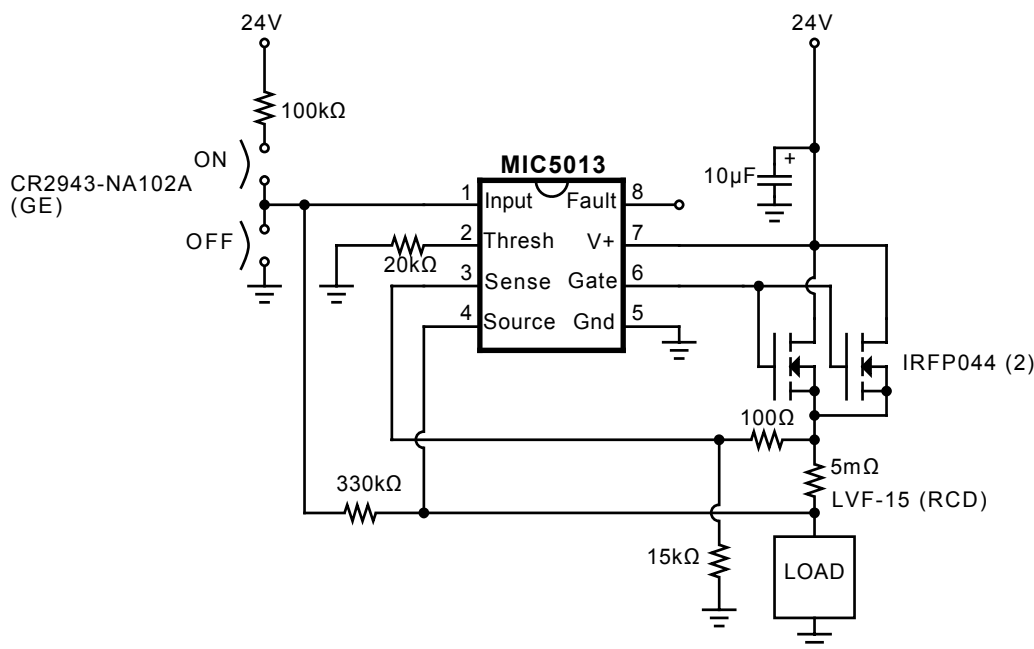

Figure 9. 50-Ampere Industrial Switch
**Fault-Protected Industrial Switch** (Figure 9). The most common manual control for industrial loads is a push button on/off switch. The “on” button is physically arranged in a recess so that in a panic situation the “off” button, which extends out from the control box, is more easily pressed. This circuit is compatible with control boxes such as the CR2943 series (GE). The circuit is configured so that if both switches close simultaneously, the “off” button has precedence. If there is a fault condition the circuit will latch off, and it can be reset by pushing the “ON” button.